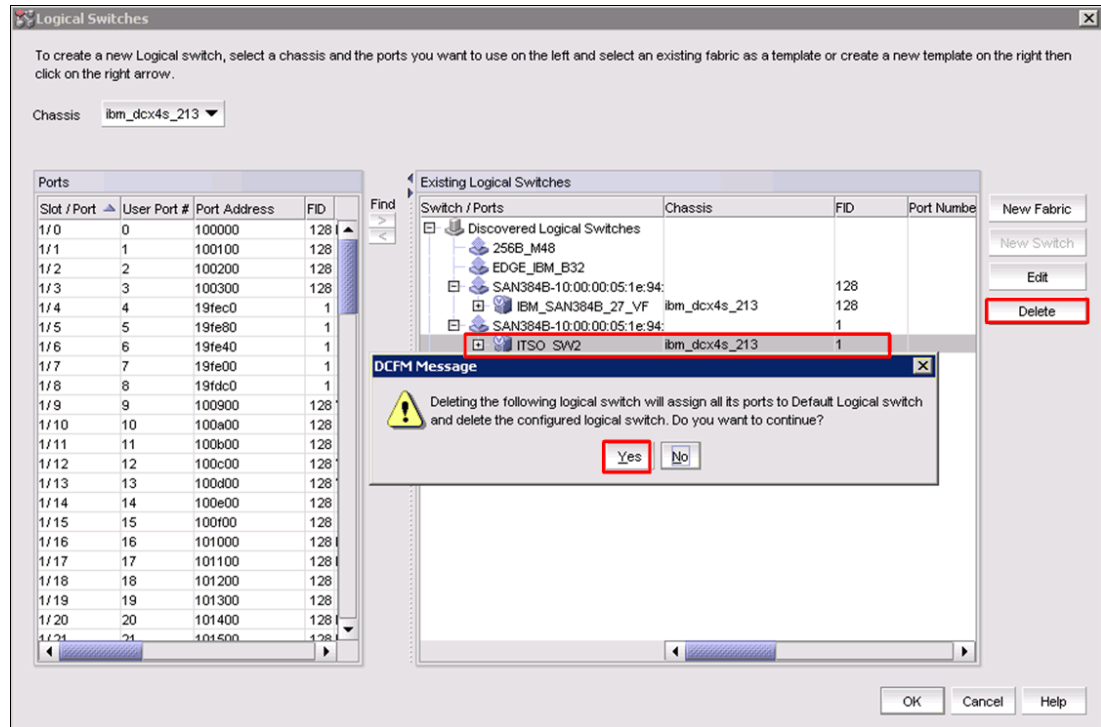

Figure 8-18 Delete switch
2. A warning message appears. Read the warning and click **Yes**, as shown in Figure 8-18.